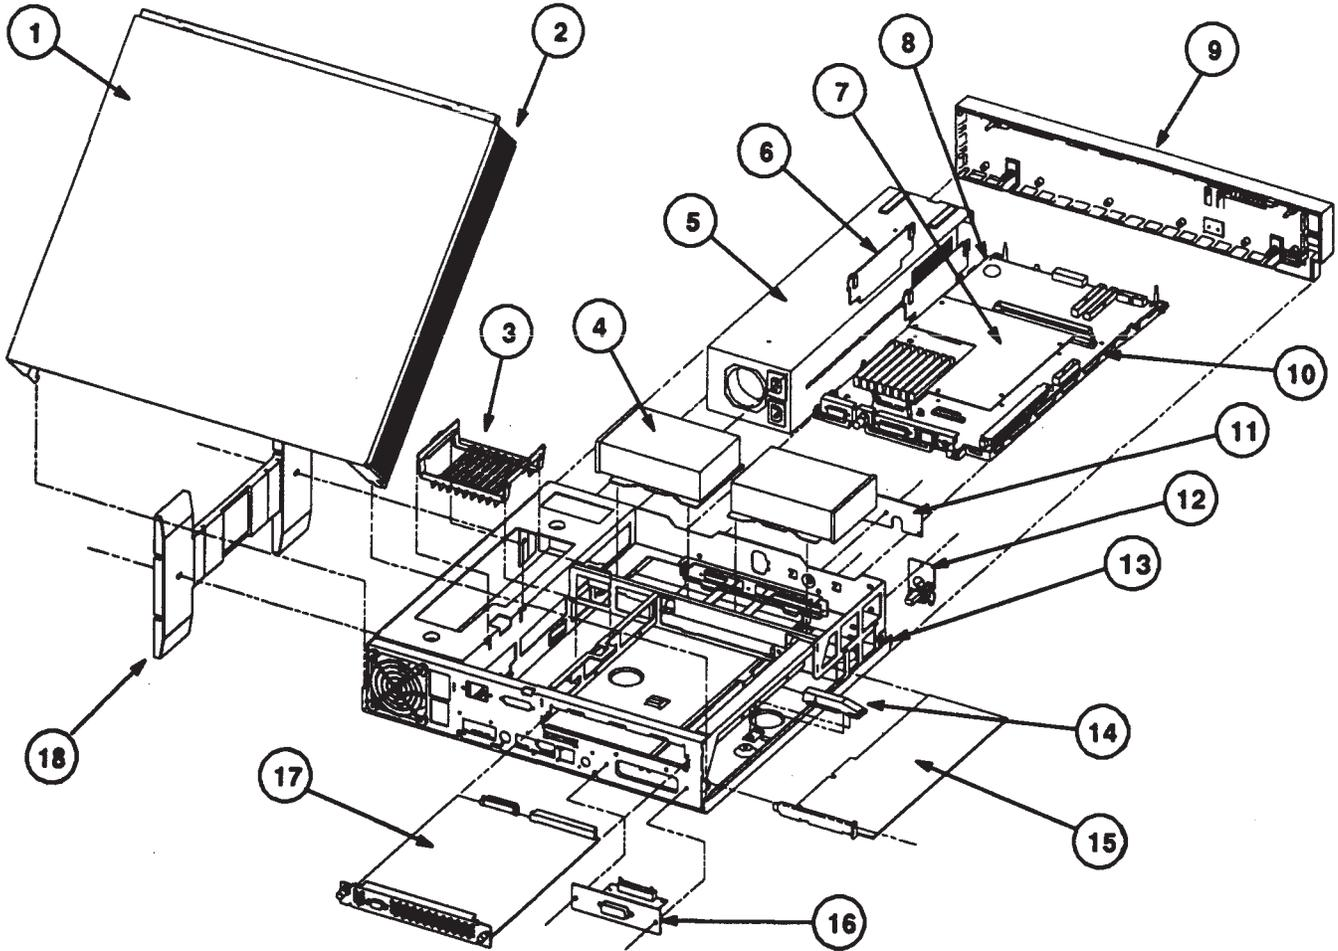

Figure 5-20. Illustrated Parts Breakdown of the System Unit
- Figure 5-20, at the end of Part 1, shows an exploded view of the system unit FRUs. Accompanying tables list the FRU part numbers.